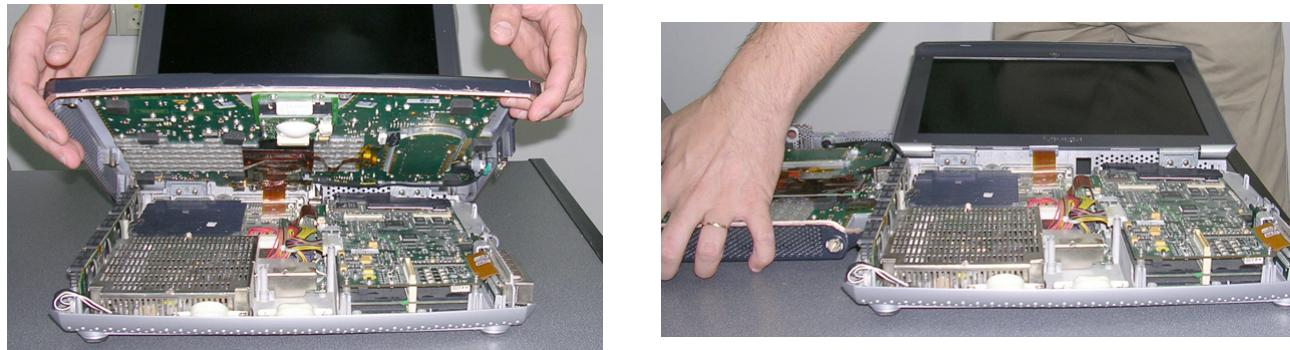

Figure 8-7 Removing the Control Panel and Keyboard
- 4) Carefully lift the Control Panel and Keyboard upwards from the front, then release it from the rear; remove it from the Vivid i n and place it next to the system, as shown in Figure 8-7.
- 2) Carefully lift the Control Panel and Keyboard into position on the Vivid i n (refer to Figure 8-7, above). Make sure it is properly seated and take care to align the screw holes with those in the Bottom Assembly.